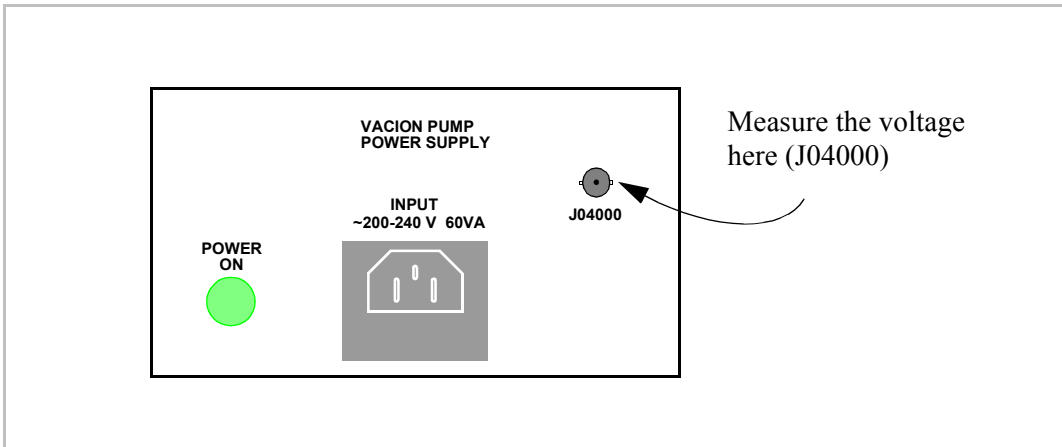

Figure 12 Vacion Power Supply
3. **Vacion™ Power Supply Voltage Check** — Use a voltmeter and measure the Vacion Power Supply at test point J04000 on the power supply. It is located under the main unit in the rear (see Figure 12). Measure this at the BNC connector on the power supply. The reading may be as high as 3 volts d.c. but after warm-up (~1/2 hour) it should read in the 20 - 50 millivolt range and be continuing to drop slowly.
- a. Use a voltmeter to recheck the Vacion Power Supply at test point J04000. (Figure 12 on page 26) The reading should now be less than 20 mv. If it is not, or has risen since your last reading, there is a